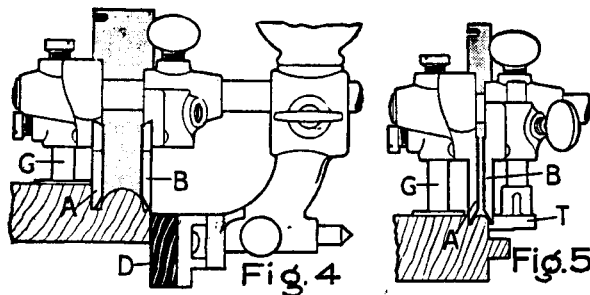
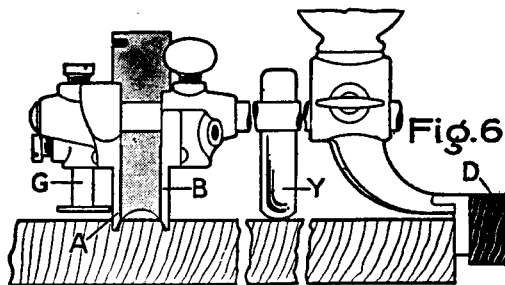

Fig. 4
Fig. 6
Fig. 4—BEADING—For ordinary Beading place Sliding Section (B) so that the outside of same is in line with left side of the cutter. Fence (D) gauges the distance of bead from edge of board, and Gauge (G) depth of cut. Spurs not used.
Fig. 6—CENTER BEADING—Attach Cam Rest (Y) to either Arm between Sliding Section and Fence to steady Plane. Attach Fence as in Fig 4, and Plane will cut bead five inches from edge of stock. Set as in Fig. 6 and it will cut bead eight inches from edge. Gauge (G) is used as in ordinary beading. No Spurs required.